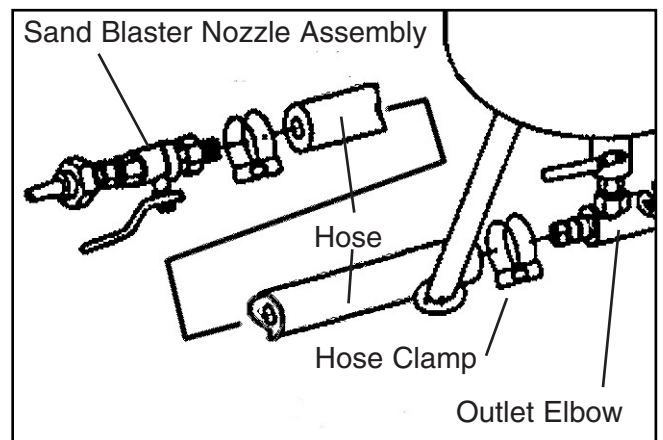

Figure 4. Sand blaster hose installation.
5. With the two hose clamps, secure the sandblaster hose to the sand outlet elbow and the sand blaster nozzle assembly as shown in **Figure 4**.